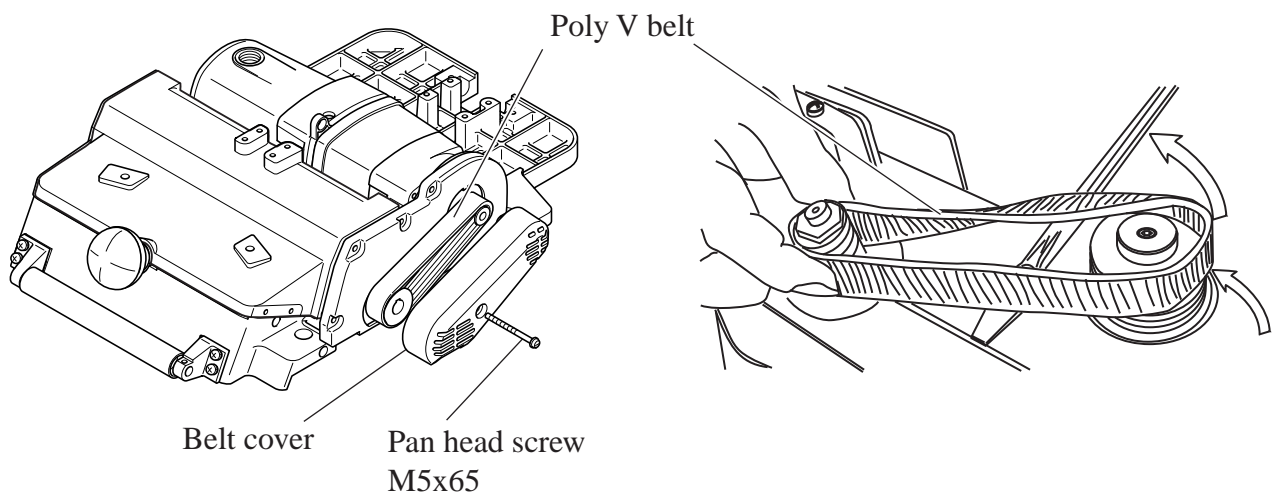

Fig. 1
- (1) Remove belt cover by unscrewing one pc. of pan head screw M5x65.
- (2) Lifting up poly V belt with screwdriver, turn V pulley with your hand. Then, V pulley can be removed as illustrated in Fig. 1.